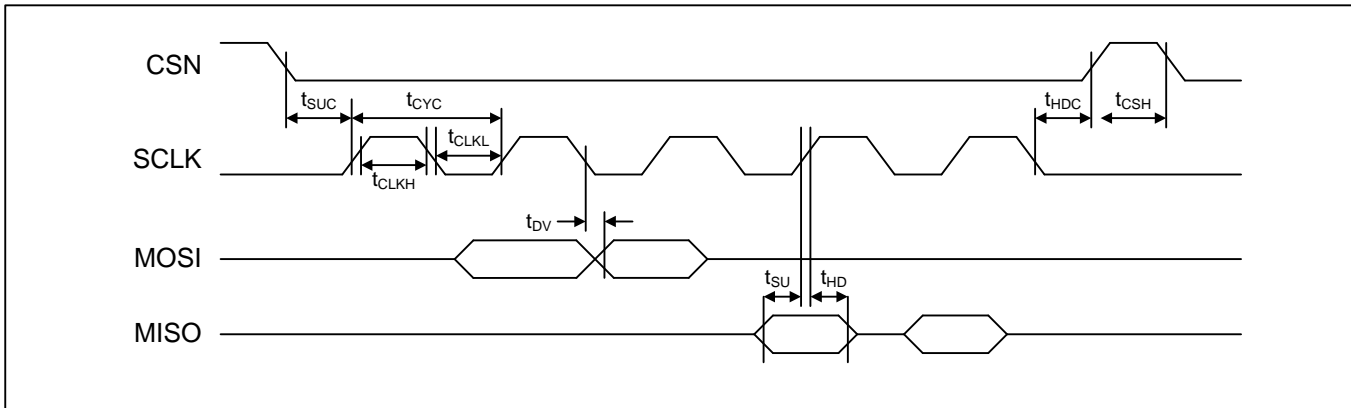

Figure 19 - SPI Master Interface Timing
- Note 3:** See timing diagram in Figure 19.